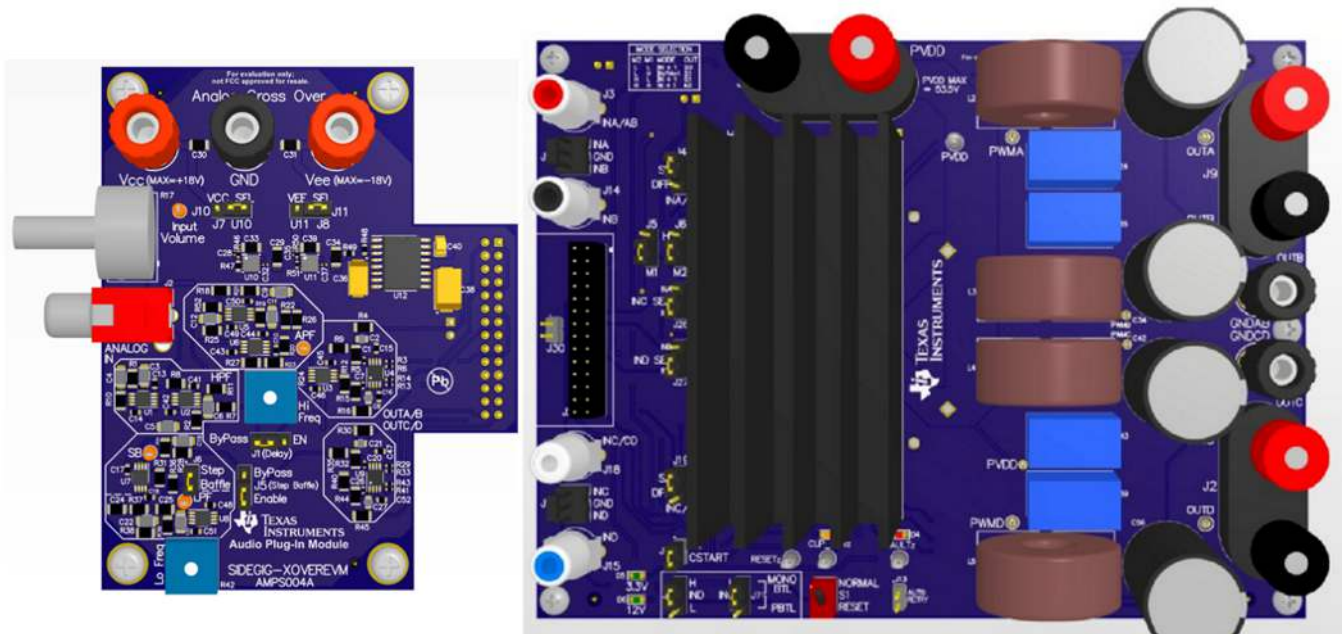

Figure 5. Connecting Audio Crossover Plug-in Module
2. While the Class-D amplifier EVM is not powered, connect the analog crossover module to the AIB connector (see Figure 5). Take care not to misalign the connector, otherwise damage to the plug-in module or Class-D EVM can occur.